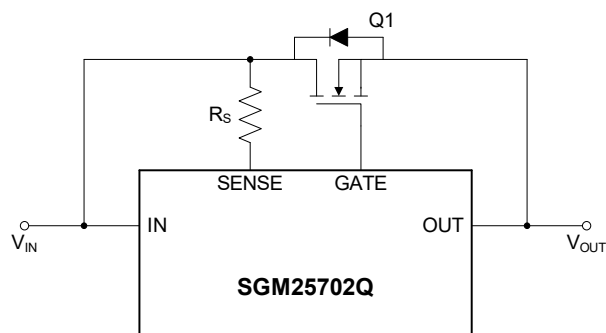

Figure 8. Setting the V_{DS} Threshold
- ♦ $R_{DS(on)}$ is the drain-to-source resistance of Q1 in Figure 8
As described in the section Over-Current Protection and Figure 8, the appropriate SENSE pin resistor R_S can be selected based on the desired over-current threshold and $R_{DS(on)}$ of the external N-MOSFET.